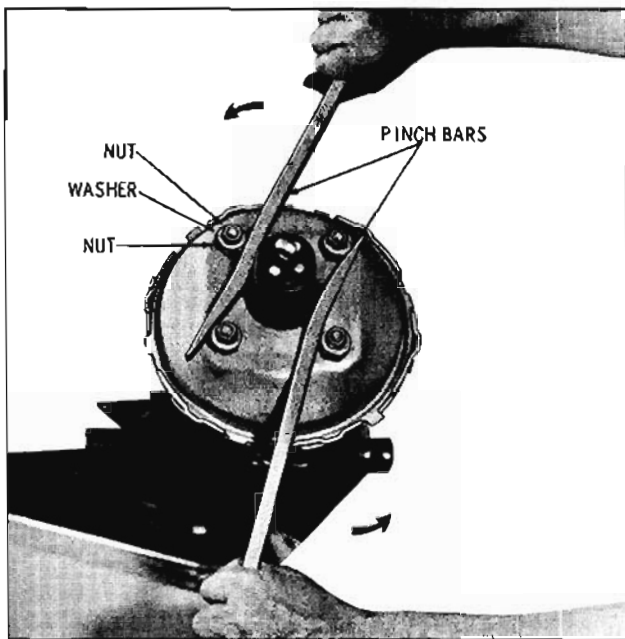

Fig. 11-29 Separating Housings (33, 34, 35, 36, 38 & 39 Series)
3. Rotate the rear housing counterclockwise to separate the two housings. If the rear housing cannot be readily loosened, tap the rear housing lightly with a plastic hammer. (Fig. 11-29 or 11-30)